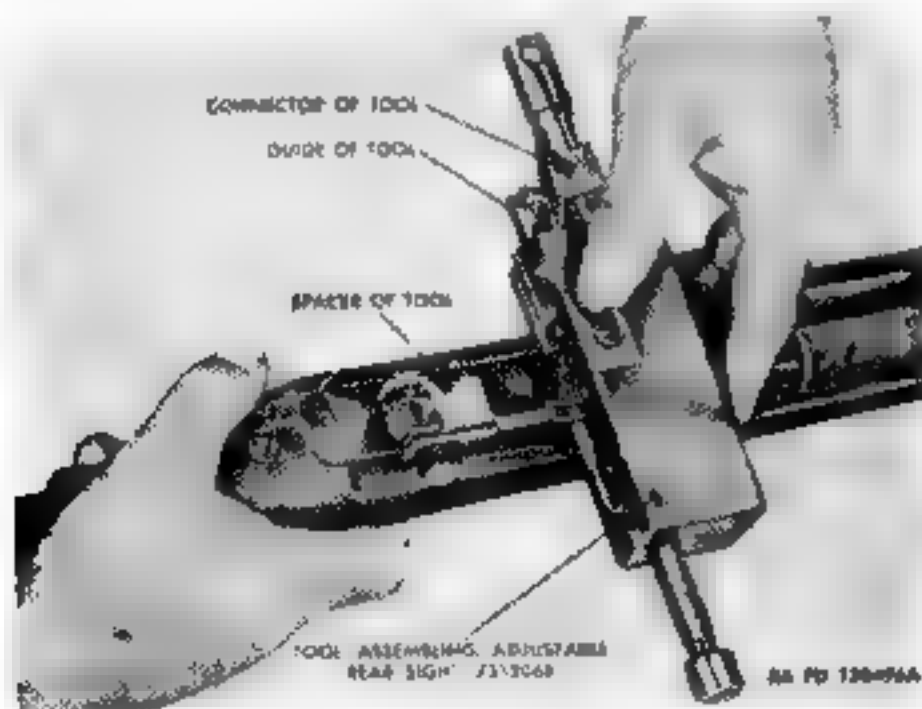

Figure 69. Rear sight assembling tool with spacer.
b. Place adjustable rear sight assembling tool 7312068 on the receiver with the lip of the tool riding on the operating slide guideway in the receiver. If the sight is of the stamped type, insert spacer (Fig. 69) (hanging at end of cham on tool) in place to prevent distortion of sight base wings. With the right hand jack screw retracted to the
7312088 in place for reinforcing the side wings of sight (Fig. 69).